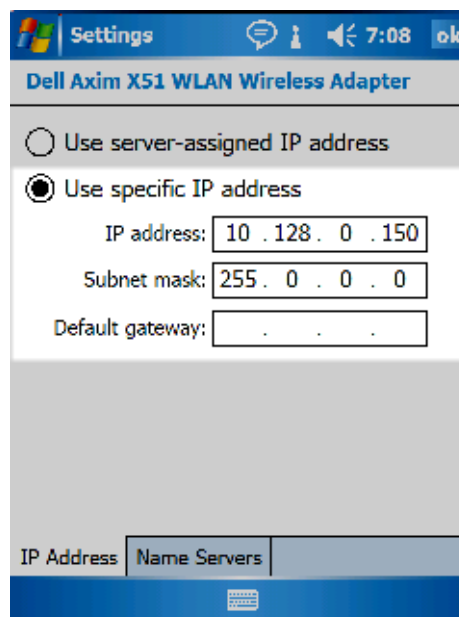

Figure 35: Connecting to ILRIS-3D
- From the Dell Axim X51 WLAN Wireless Adapter window, select **Use specific IP address**, and type the following to connect to ILRIS-3D (Figure 35):